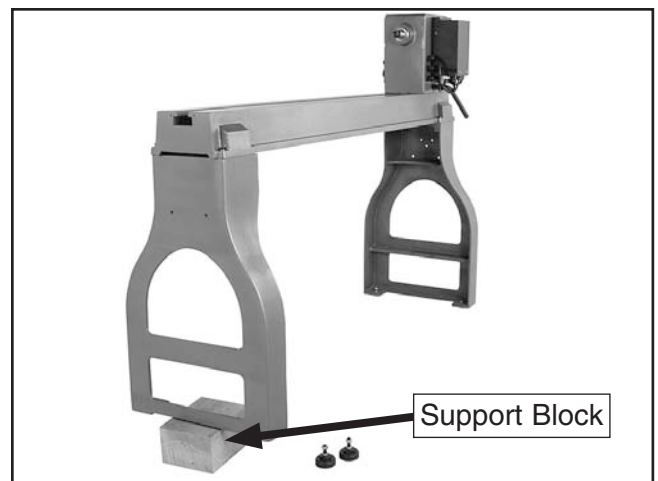

Figure 11. Legs supported for feet installation.
5. Use assistants to lift one end of the lathe onto support blocks in preparation for installing the machine feet (see **Figure 11**).